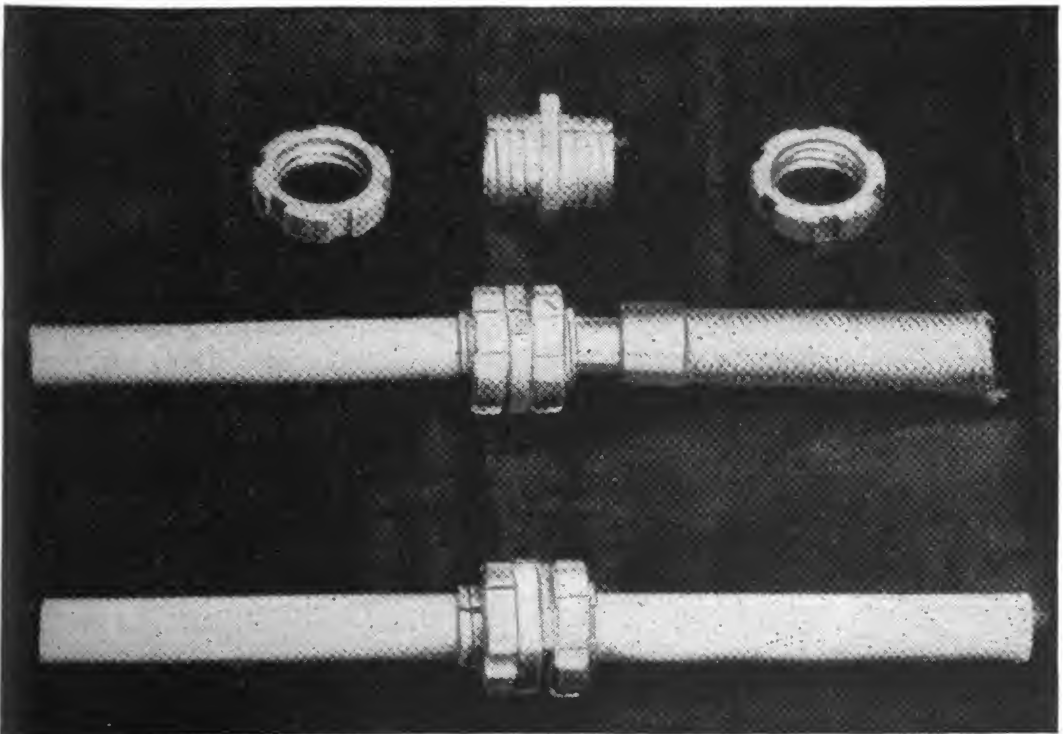

FIGURE 54.—Conduit union, tube size.
(24) Cover the tape with a coat of shellac and let dry. The cord and plug assembly is now ready for installation.
**52. Conduit installations.**—Rigid and flexible conduit is used in modern aircraft to protect and shield the wires which connect radio set components instead of cord and plug assemblies. Rigid conduit is used to within about 18 inches of the radio set components, then flexible conduit with a PL, PL-P, or PL-Q series plug is used to connect into the internal wiring of the radio equipment. A conduit union and ferrule are used to join rigid and flexible conduit. (See fig. 54.) It is very important for the aircraft radio mechanic to be familiar with the nomenclature, description, and use of the accessories
*f. Union, conduit, tube size, class 04-A.*—The union is in effect the same as two clamps fastened together; that is, both ends are threaded and both ends take a nut with a conical thread. It is used to connect rigid conduit to rigid conduit or flexible conduit to rigid conduit. (See fig. 54.)